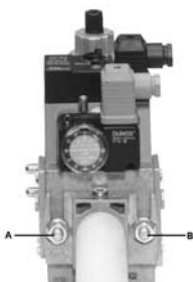

Fig. 6
3. tighten screws A, B, C and D (Fig. 6 - Fig. 7), according to the mounting positions (Fig. 9);